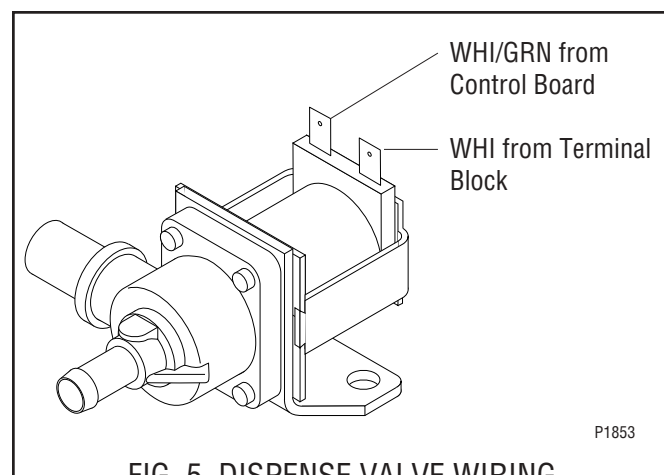

FIG. 5 DISPENSE VALVE WIRING
7. Refer to FIG. 5 when reconnecting wires.